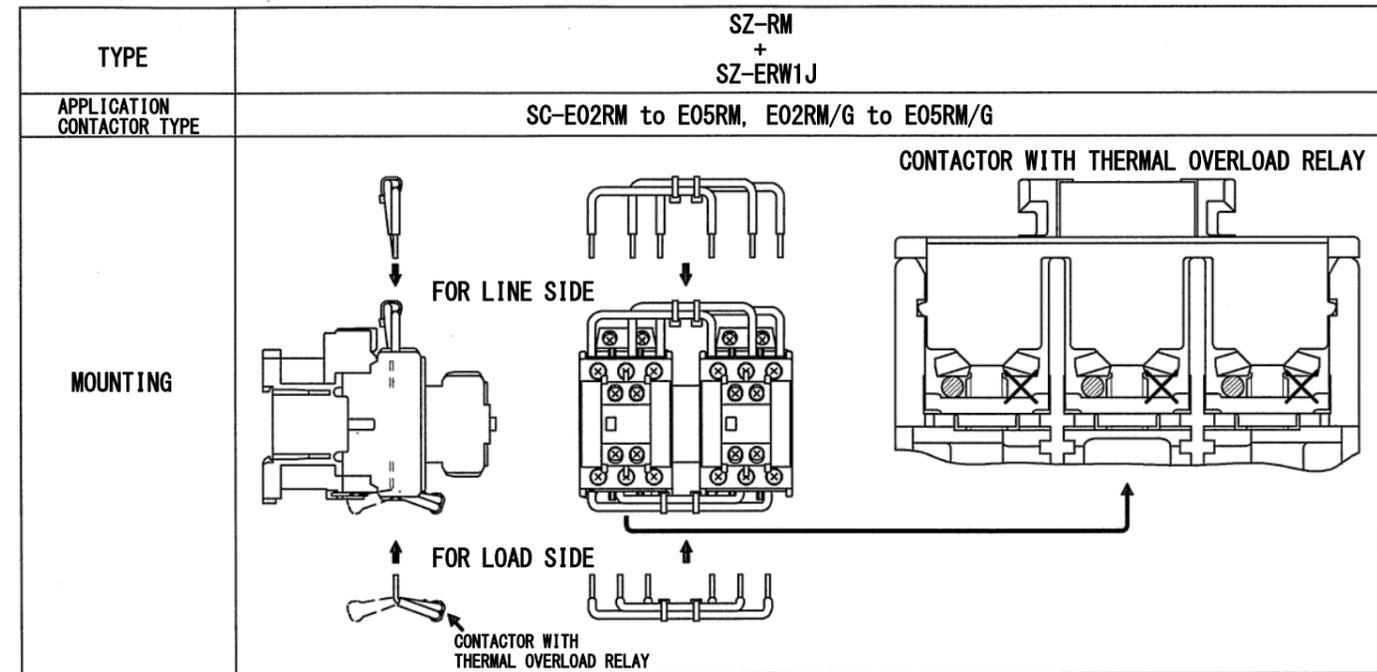

Fig. 2
- In case of using load side part of "SZ-ERW1J" with thermal overload relay, insert and connect this part to the **left** side of the terminal screw after turning tied band side to the direction of **front** side of the contactor. In case of without thermal overload relay, it is also available turning tied band side to the direction of **back** side of the contactor and connecting to the **right** side of the terminal screw. (Fig.2)